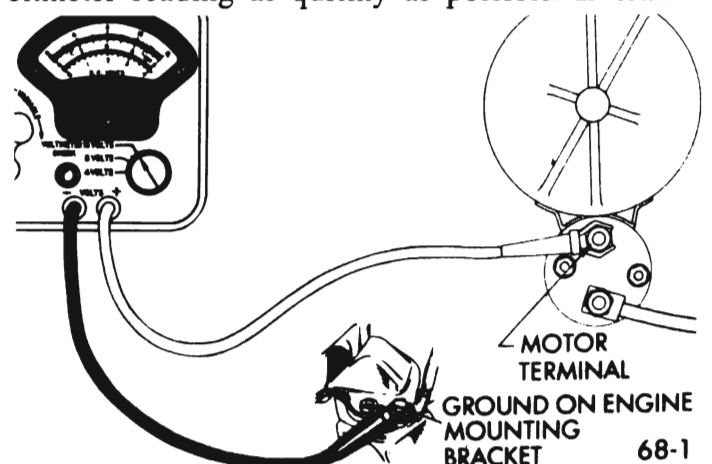

Figure 68-1 Cranking Voltage Test Connections
3. Connect voltmeter positive lead to the motor terminal on solenoid switch; connect voltmeter negative lead to ground. See Figure 68-1.